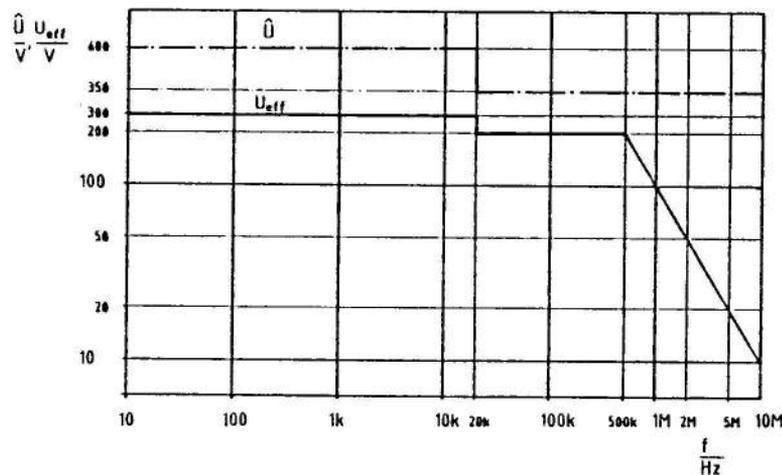

Fig. 2-3 Permissible input voltages
- The total peak input voltage (peak AC voltage + DC component) must not exceed 600 V at frequencies up to 20 kHz and 350 V at higher frequencies (Fig. 2-3).
- The rms value of the AC voltage must not exceed 300 V at frequencies up to 20 kHz and 200 V at higher frequencies up to 500 kHz. At frequencies above 500 kHz, it must be reduced so that the voltage-frequency product does not exceed 10^8 V · Hz (Fig. 2-3).